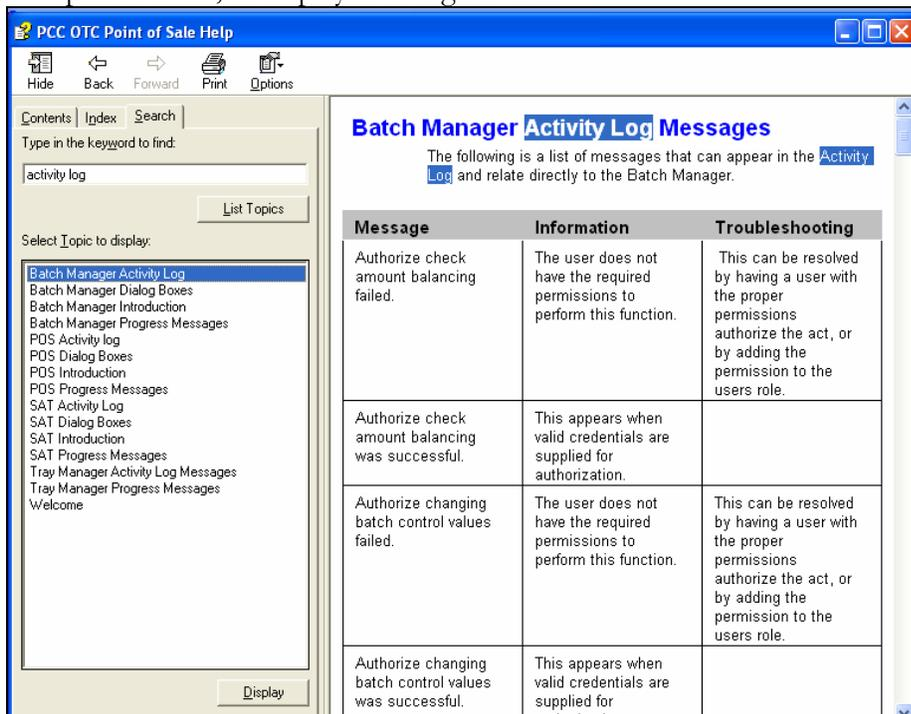

Figure 4.26
- Search – The search function allows the user to type a word or group of words to search for a specific error, as displayed in Figure 4.26.